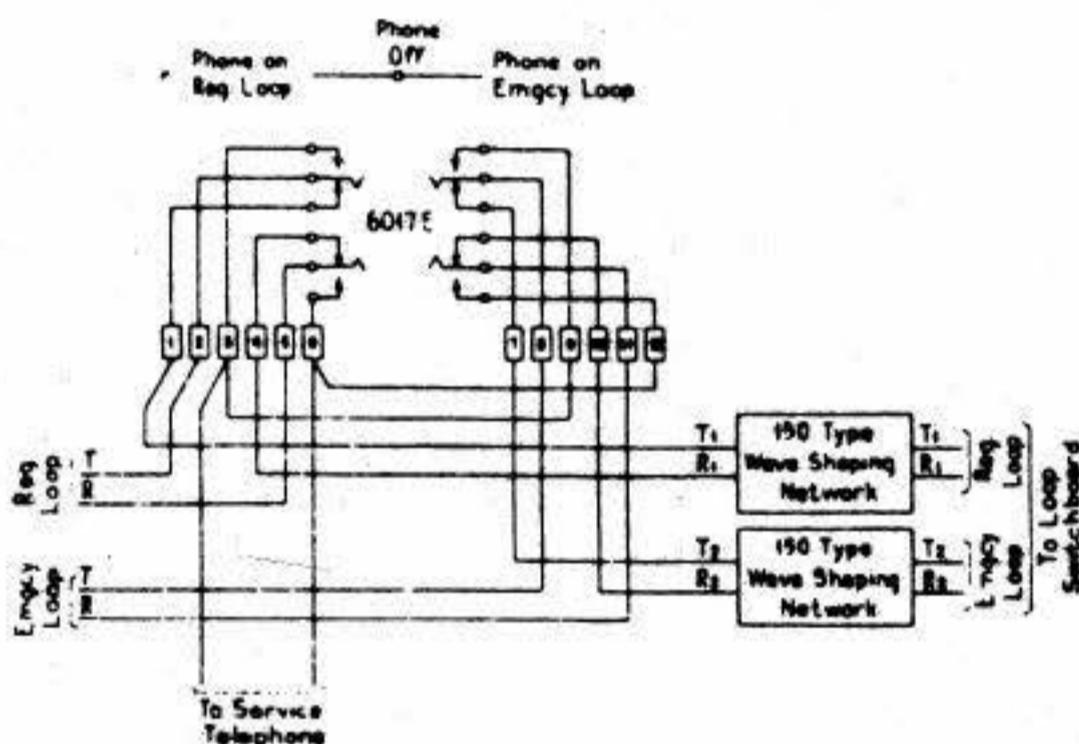

Fig. 8 - Connection of Service Telephone when Loops are Equipped with Wave Shaping Sets.
4.03 When the loops are equipped with wave shaping sets, it is necessary to provide means for disconnecting the wave shaping set from the loop on which the telephone is to be used so that voice transmission will be satisfactory. The recommended arrangement for this purpose is shown in Figure 8, which was reproduced from Long Lines Department Drawing S-8241-142. With this arrangement the telephone may be used with either of two loops, or may be disconnected from both loops, depending upon the position of the three position key.